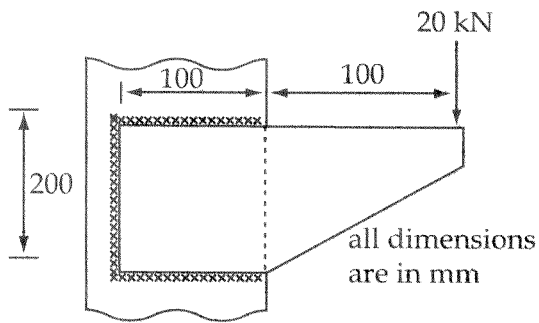

Figure 3
16. Determine the size of the weld required for the joint shown in the Figure 3. Allowable stress for the weld material is 80 N/mm^2 . 10